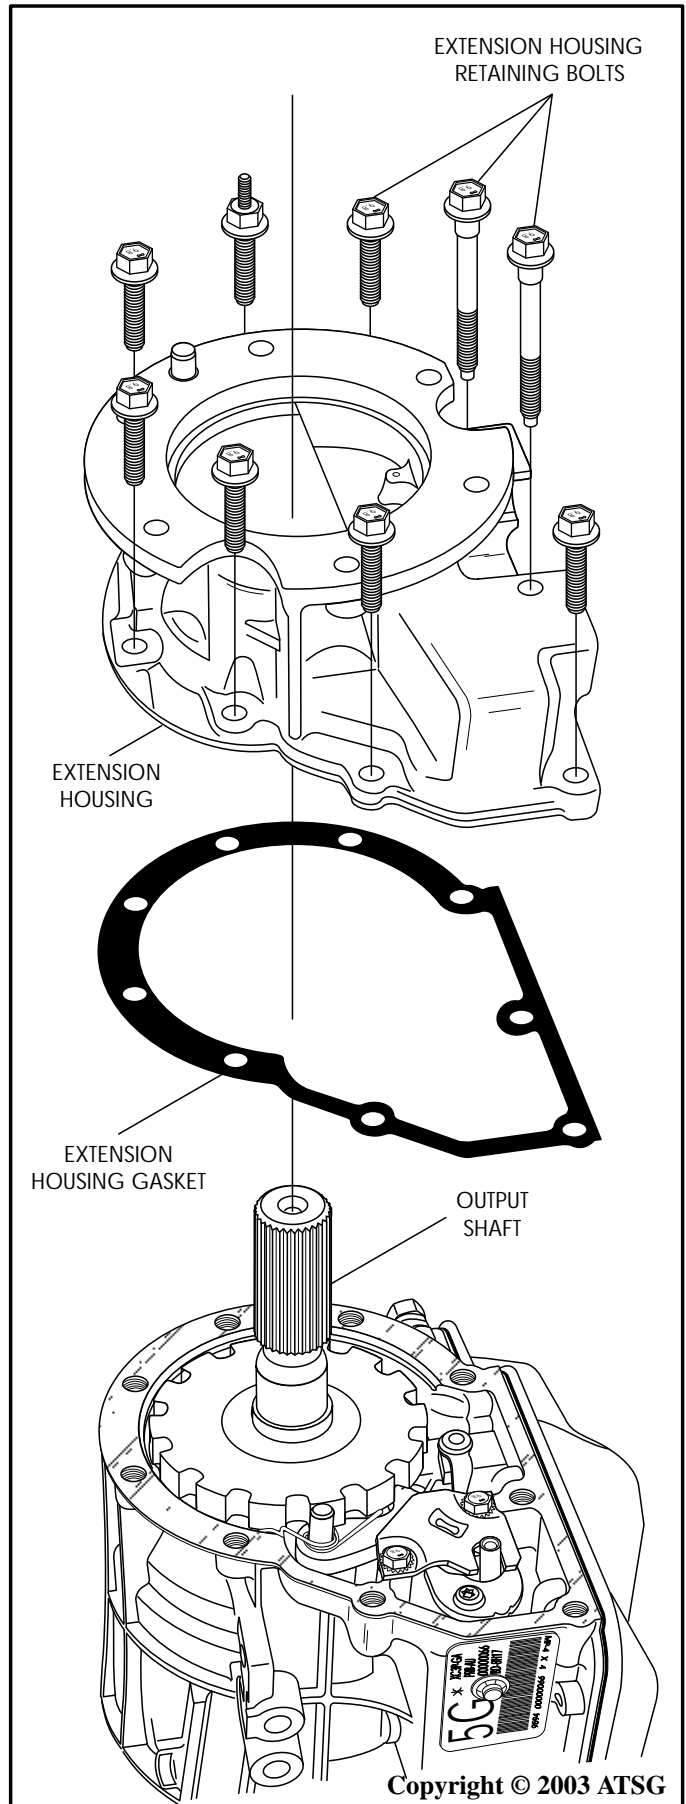
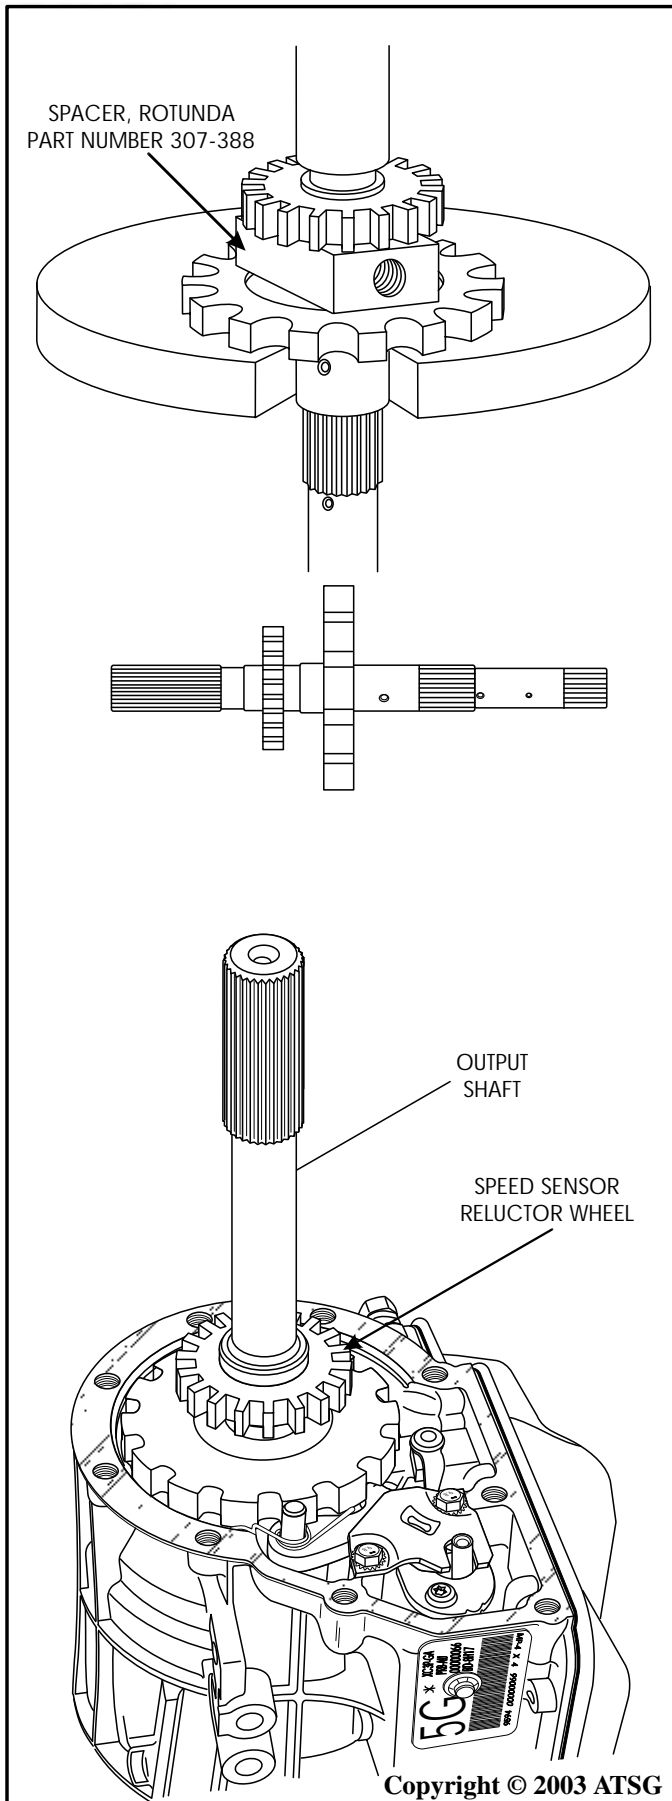

Figure 74
Figure 75
30. Rotate transmission in fixture so output shaft is facing up, as shown in Figure 74.
31. Remove the extension housing retaining bolts and housing, as shown in Figure 74.
32. We have illustrated the typical 4WD version in Figure 74, and the 2WD version in Figure 75.
33. Notice that the 2WD version has a speed sensor reluctor wheel that must be pressed off and on, if necessary to replace, as shown in Figure 75.
34. Remove and discard the extension housing gasket, as shown in Figure 74.